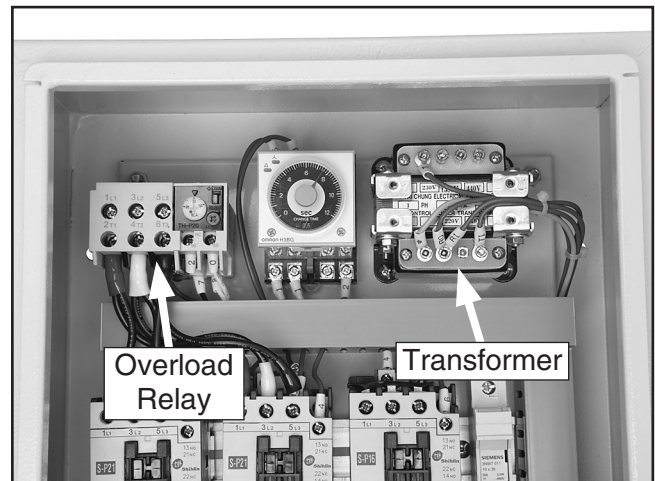

Figure 3. Model G0638 control box overload relay and transformer.
2. Open the control box and identify the overload relay and the transformer (see **Figure 3**).